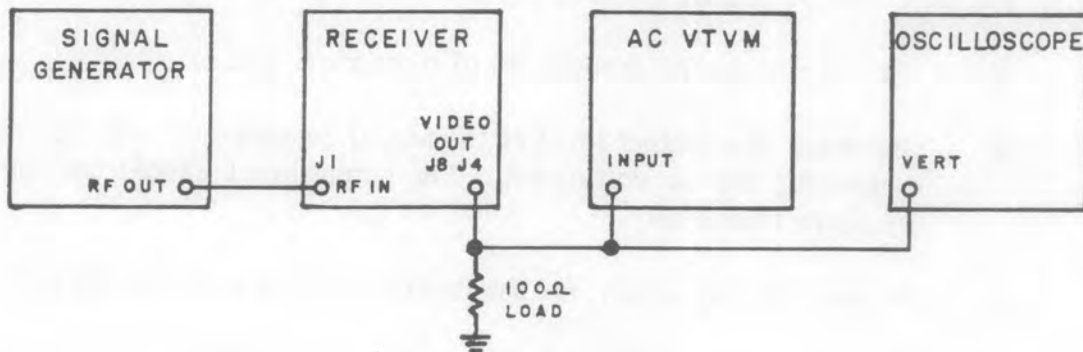

Figure 4-3. Test Setup for AM and CW Sensitivity, AM Output Stability, and AM Audio and Video Output Level Performance Tests.
- (1) Connect the equipment as shown in Figure 4-3.
- (2) Place the receiver MODE switch in the cw position and adjust the RF/IF GAIN maximum clockwise.
- (3) Select any convenient bandwidth with the IF BANDWIDTH switch.
- (4) Select the tuner for which the test is to be performed and set it at the desired frequency.
- (5) Set the signal generator to the tuner frequency so the signal is centered in the i-f bandpass. The generator should be unmodulated.
- (6) From Table 1-2, determine the tuner input level required by correlating the selected tuner and bandwidth. For example, a 90-300 MHz tuner and 300 kHz i-f amplifier correlate to -91 dBm. For the purposes of this test, the actual level must be 6 dB or less than that determined in the table. Thus, -97 dBm would be the actual level used for this test. Set the signal generator output level to the level determined in this step.
- (7) Set the AFC/DAFC switch OFF, and offset the receiver fine tuning to obtain a 1 kHz tone output at J8, the video output.
- (8) Adjust the VIDEO GAIN of the receiver for a convenient dB reference on the ac voltmeter.
- (9) Disconnect the signal generator. The meter reading should decrease a minimum of 10 dB from the reference set in step (8).
- (10) Repeat the procedure at any other bandwidth and/or test frequency. Repeat the procedure for the other tuners.
- (2) Place the BAND switch in the TUNER 1 (26-90 MHz) position. Rotate the VIDEO GAIN and RF/IF GAIN controls fully cw. Place the receiver in the AM MAN mode.
- (3) Set the signal generator and tuner to 26 MHz.
- (4) Adjust the signal generator controls for 1 kHz 50% amplitude modulation. Set the rf output level to -96 dBm.
- (5) Adjust the VIDEO GAIN control slightly for a convenient reference indication on the ac vtvm. If an indication is not clearly obtainable, reduce the receiver i-f bandwidth.
- (6) Tune the signal generator to 21.4 MHz and increase the output level to again obtain the ac vtvm reading noted in step (5). Note the new signal generator output level. The new signal generator output level should be -36 dBm or greater (at least 60 dB above the level set in step (5) of this procedure).
- (7) A similar procedure is employed to measure the i-f rejection for the other tuners. Refer to the chart below for the test frequency, i-f frequencies, and minimum acceptable i-f rejection for each tuner: